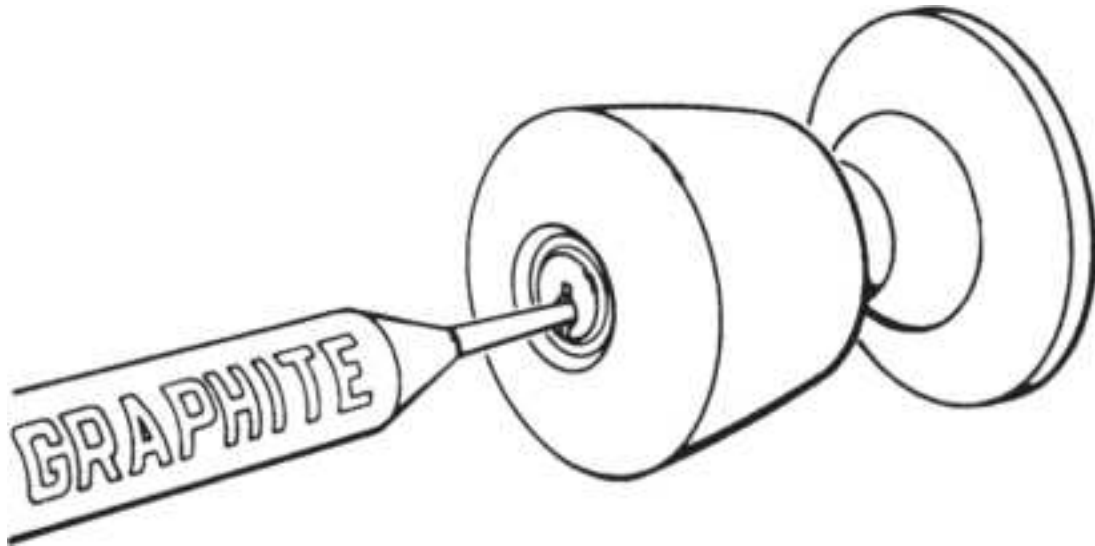

**Figure 13.10** Lubricating keyway.
**Problem 4: Key works with difficulty.** Lubricate the keyway (Fig. 13.10). Do *not* use petroleum products. Spray powdered graphite into the cylinder or place powdered